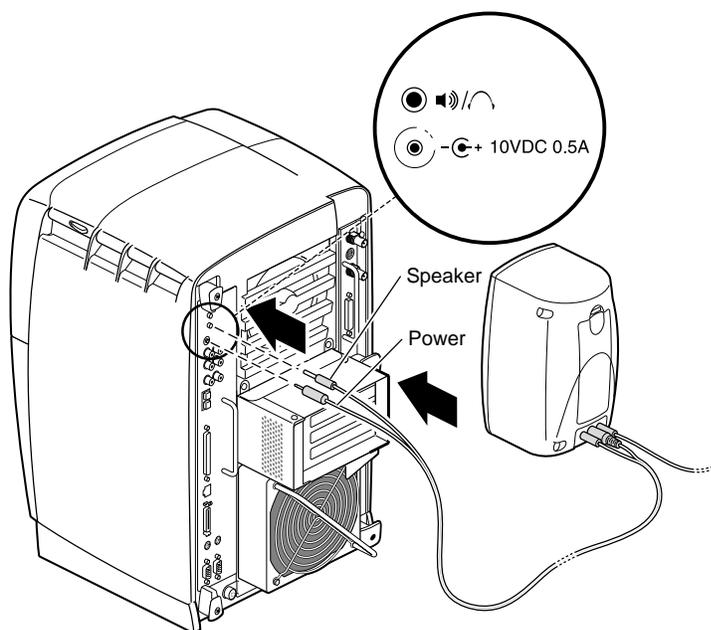

Figure 6-18 Attaching the Speaker Cables to the Octane2 Workstation
- Attach the larger tipped connector to the speaker port, as shown in Figure 6-18.